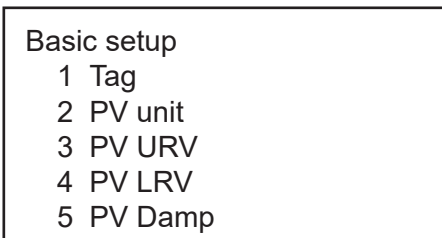

Fig. 7-7. Transmitting the setting
5. After pressing F4 (ENTER) and returning to the basic menu, press F2 (SEND). The HART mark will appear in the upper right hand corner while HART is communicating with the device. (Fig. 7-7.) Once communication is complete, the HART mark will disappear.